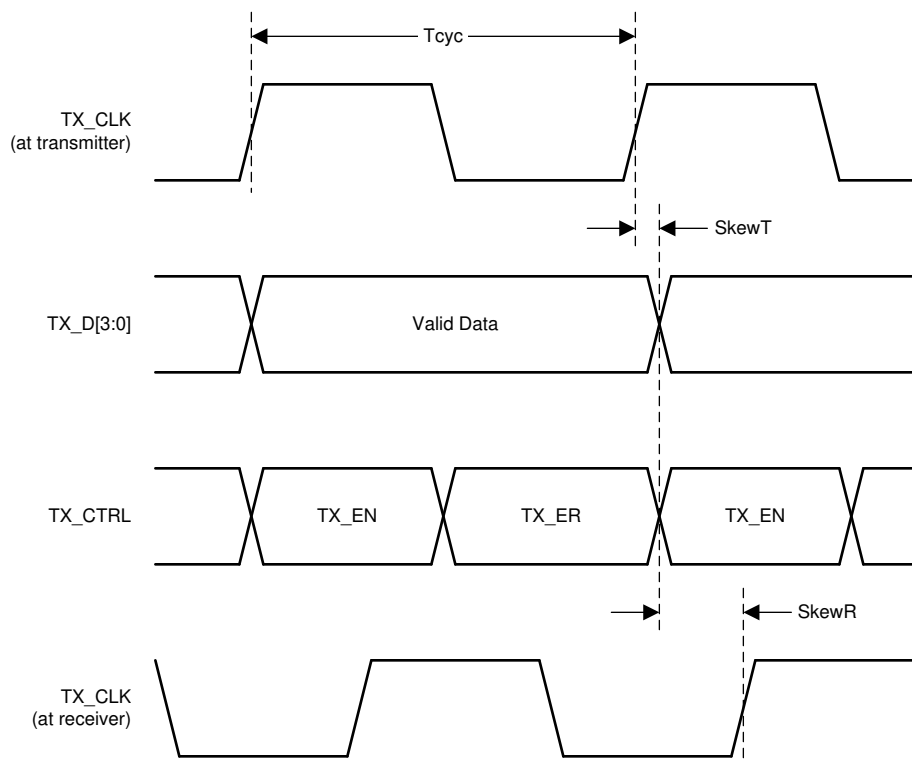
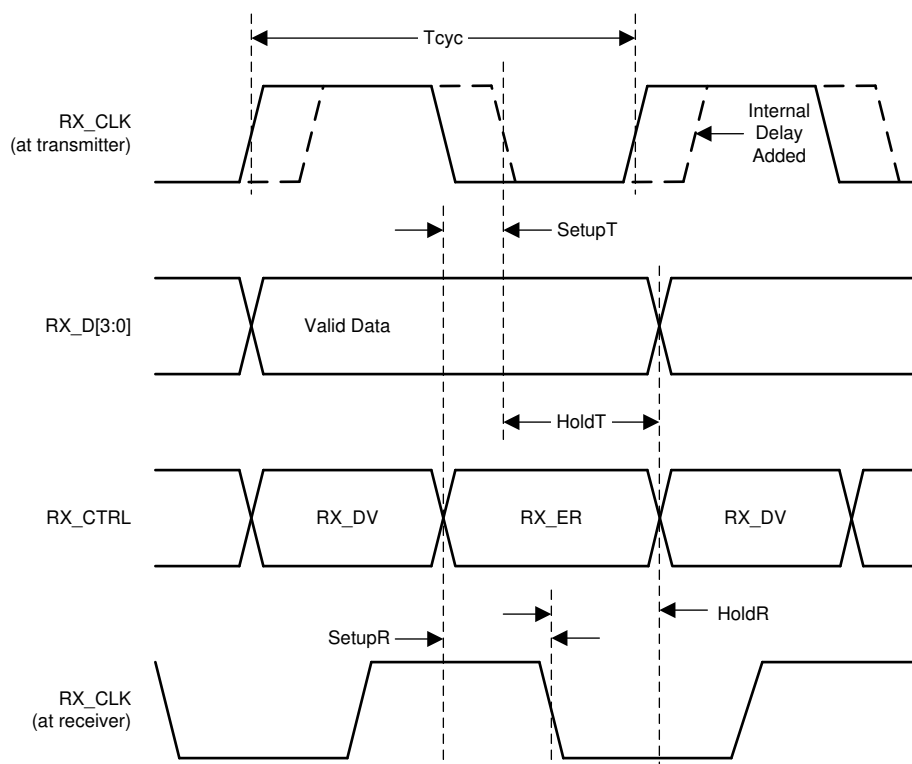

图 7-11. RGMII Transmit Timing
图 7-12. RGMII Receive Timing
(1) Ensured by production test, characterization or design.
(2) When operating without RGMII internal delay, the PCB design requires clocks to be routed such that an additional trace delay of greater than 1.5 ns is added to the associated clock signal.
(3) Device may operate with or without internal delay.
(4) The duty cycle may be stretched or shrunk during speed changes or while transitioning to a received packet's clock domain as long as minimum duty cycle is not violated and stretching occurs for no more than three Tcyc of the lowest speed transitioned between.
(5) See 图 7-11 and 图 7-12.